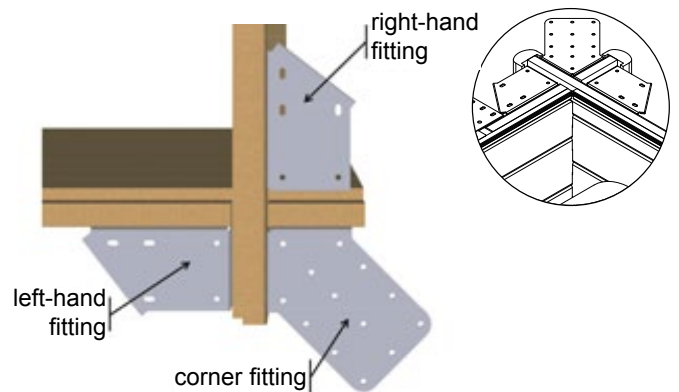

Figure 20 – Mounting the fitting in the corners
The metal fittings are intended to support the coping and allow them to be fixed in position. Make sure that they are correctly positioned. They should be flush with the top of the pool wall and aligned with each other and the coping corbel plates. *Figure 20*
- In each of the corners, mount a right-hand fitting, a left-hand and a corner fitting as shown in *Figure 20* Use 4 safety screws 6 × 20, A2 SS (bag G) per corner fitting 6 safety screws 6 × 20 in A2 SS (bag G) per fitting, that is a total of 64 screws.